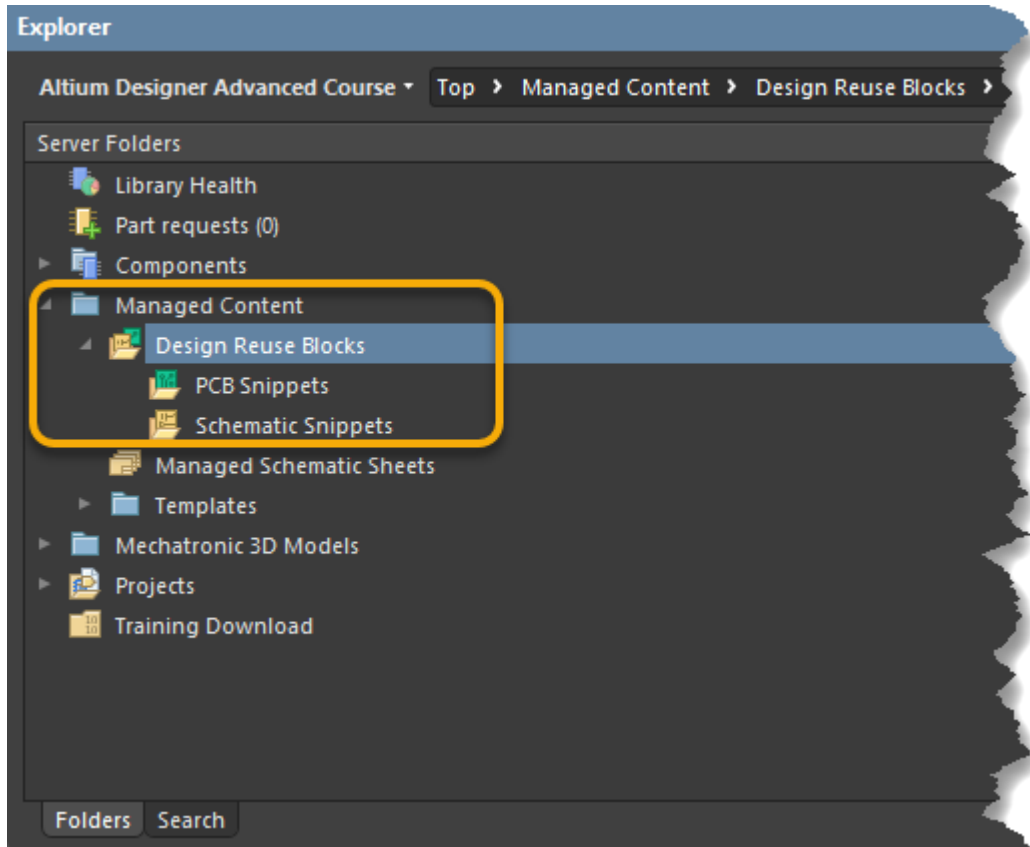

Figure 1. Explorer Panel with the Design Reuse Block branch without a Design Reuse Block configuration
10. Navigate to the branch `Managed Content - Design Reuse Blocks`. Use Figure 1 as reference.